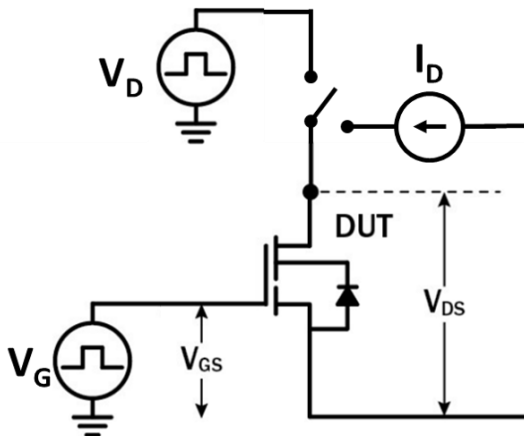

Figure 19. Dynamic $R_{DS(on)eff}$ Test Circuit
g. Dynamic R_{DS(on)}, 100% tested; see Figures 19 and 20 for test circuit and conditions